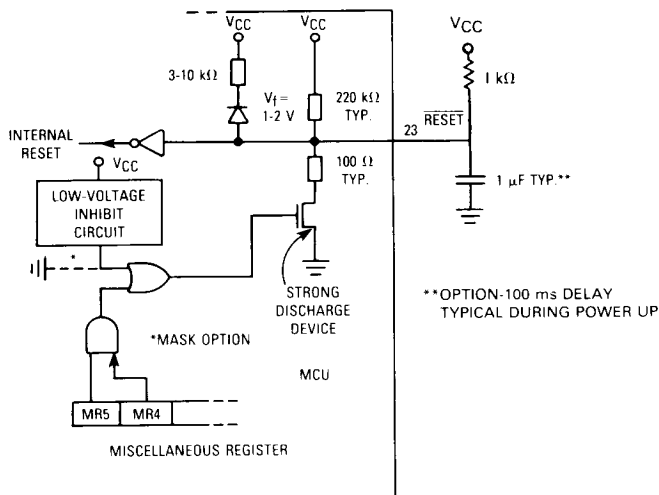

Figure 6. MCU Reset Circuit
The MCU can be reset four ways: (1) by initial power-up; (2) by the external reset input (RESET); (3) by a forced reset generated by the "watchdog" counter; and (4) by an optional internal low voltage detect circuit. The RESET input consists mainly of a Schmitt trigger that senses the line logic level. Figure 6 shows the MCU reset circuit.